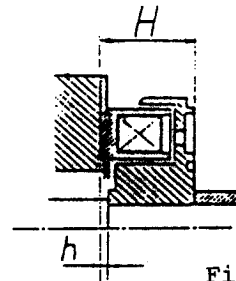

Fig. 2
- (1) It should be noted that as the rotor is made of soft material, if it is beaten with force or inserted with a bend, it will become deformed and make contact with the stator.
- (2) Attachment should be made so that the gap between rotor and stator falls within permissible limits. (Fig. 2)